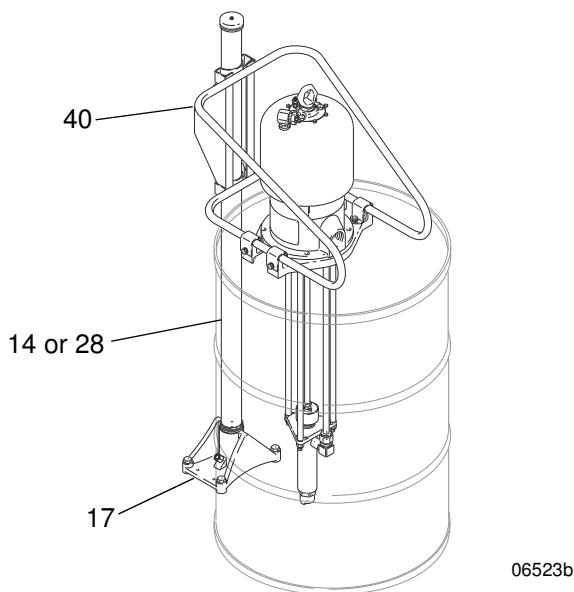
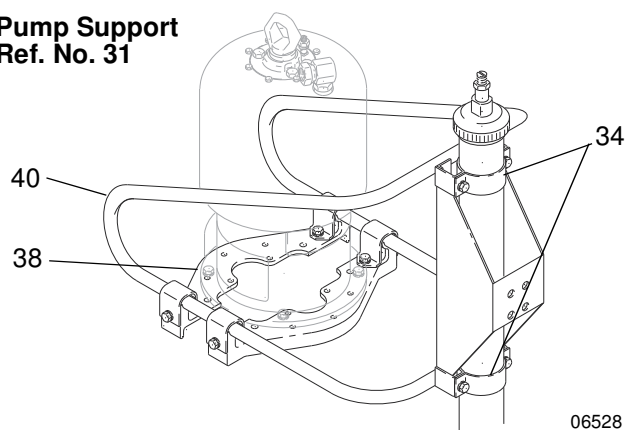

FIG. 1
FIG. 3
Set an open drum against the elevator base (17). Position the bracket (40) on top of the drum so that the clamp (34) recesses are tight against the elevator riser tube (14 or 28). See FIG. 1 and FIG. 3. Raise the riser tube up about 0.25 in. (6.4 mm), install the clamps (34) and tighten securely. Attach the pump mounting brackets (38)